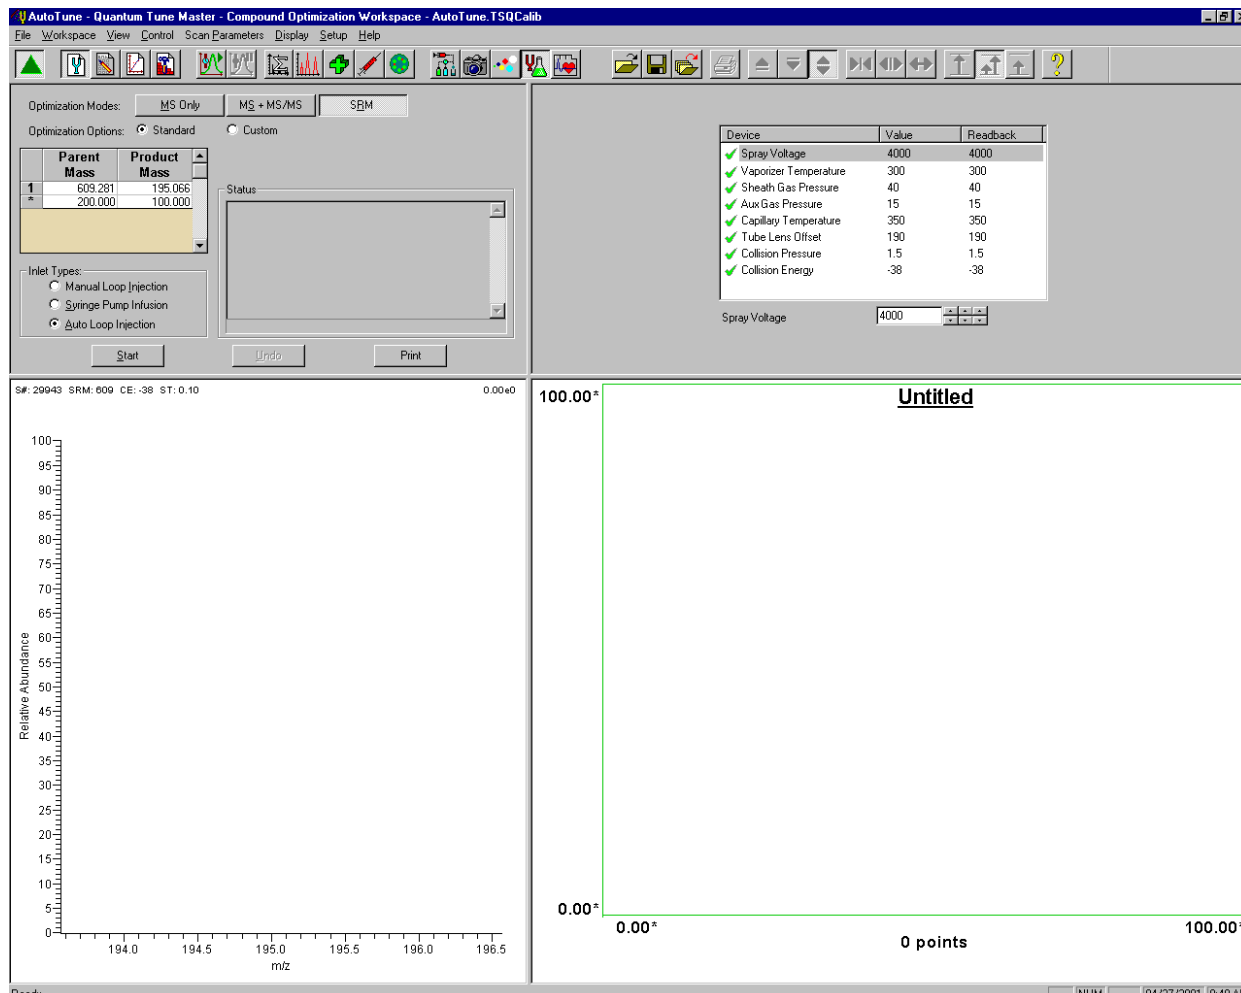

Figure 4-9. Compound Optimization workspace
1. On the Control / Scan Mode toolbar, click on the Compound Optimization Workspace button to display the Compound Optimization workspace. See Figure 4-9.